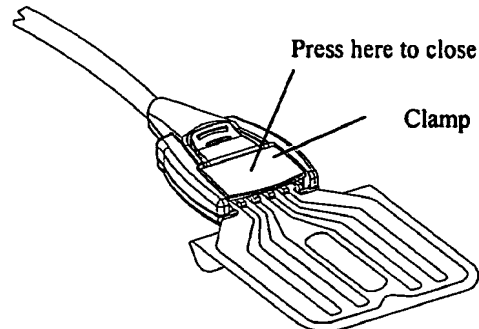

Figure 5.4 Securing the EDA Patch
7. Using your thumb, press on the clamp, shown in Figure 5.4, until latched.